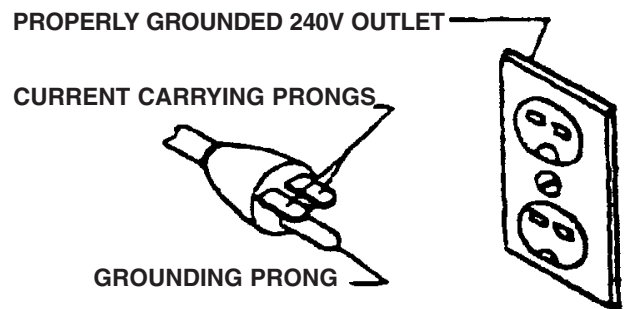

FIGURE 1B
3. The 120V plug supplied with the dust collector must be replaced with a CSA listed plug suitable for 220V operation. This plug is illustrated in Fig.1B. Contact your authorized service center or qualified electrician to install the plug and to change the connections from 120V to 240V. The dust collector must comply with all local and national codes after the 240V plug is installed.
4. A dust collector with a 240V plug should only be connected to an outlet having the same configuration as illustrated by the grounded outlet box in Fig.1B. No adaptor is available or should be used for 240V operation.